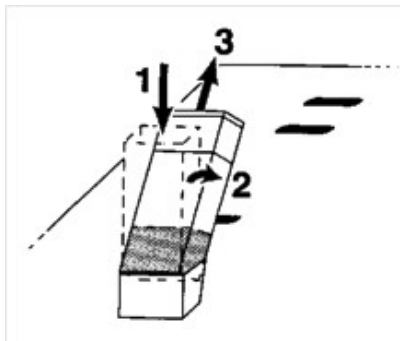

Figure 2: How to use gel pick.
6. Using the cutting edge of the gel pick push into the agarose gel until it hits the gel tray (Figure 2 (1)). Remove by tilting and pulling up (Figure 2 (2&3))